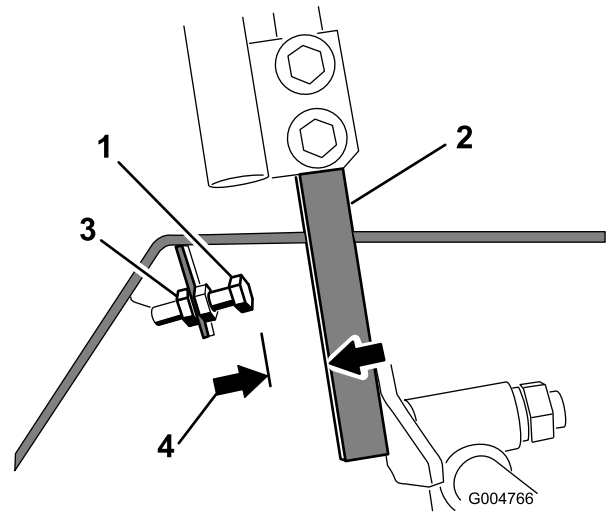

Figure 82
4. Loosen the jam nut on the stop bolt for a control lever (Figure 82).